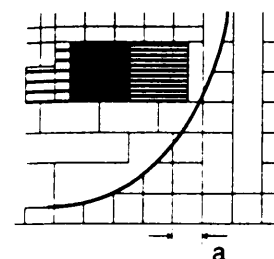

Fig 4.
- 3: By using VR701 adjust the position of "No" within "a". See Fig 4.